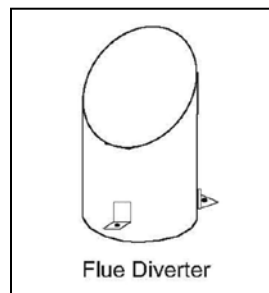

Figure 4
- h) Insert the short piece of tapered pipe supplied (see fig.4) into the hole at the top, located near the left rear corner of the oven (see fig.5A). Turn it to the desired direction, mark the location of the holes and drill three 1/8" diameter holes, then secure it with the screws supplied for that purpose. This pipe is to prevent accidental closure of the vent opening by items stored on top of the oven.